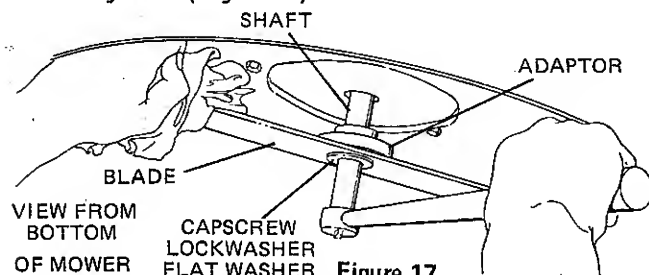

Figure 17
1. Do not attempt to remove the blade until you have the correct size box, socket or open end wrenches for the blade mounting bolts. (Figure 17)
3. Remove cap screw, lockwasher and flat washer attaching blade to engine shaft and adaptor (Figure 17).